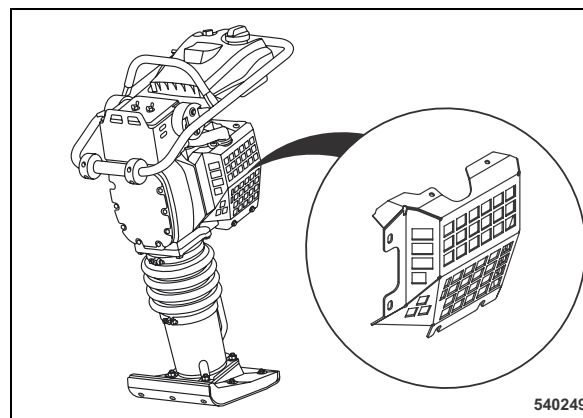

Fig. 66
- Remove the protection grid on the left hand side of the engine (Fig. 66).